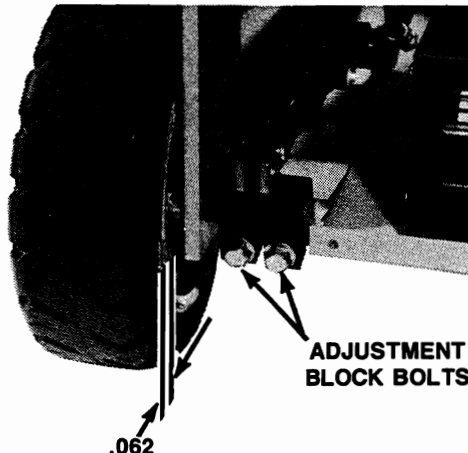

Figure 16. Brake Adjustment.
- d. Measure clearance between brake shoes and wheel drums (Figure 16).
- f. If an adjustment is necessary, loosen adjustment block bolts (Figure 16) and rotate brake actuating shaft to establish a 0.062 inch clearance. Tighten adjustment block bolts.